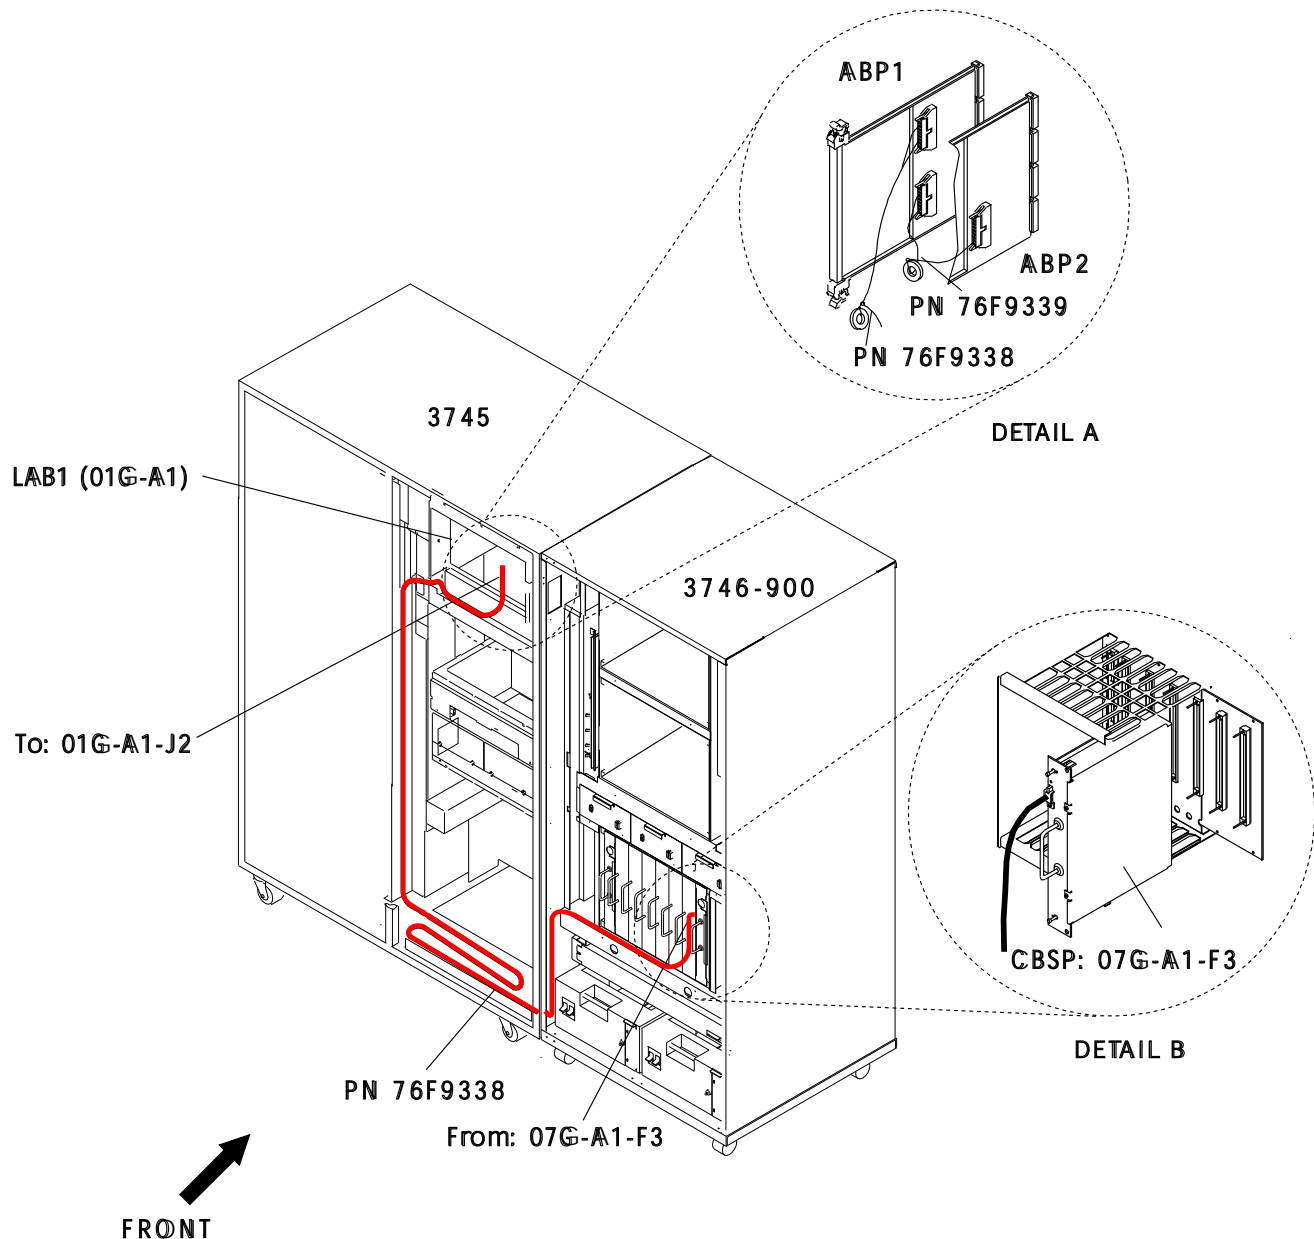

Figure 4-43. Example of Power Distribution To the ABP1 and ABP2 Cards Plugged on ADB1
- Step 9. ____ Plug and route the +5 V power cables: (see Figure 4-43 on page 4-43 as example of cable routing on ADB1).